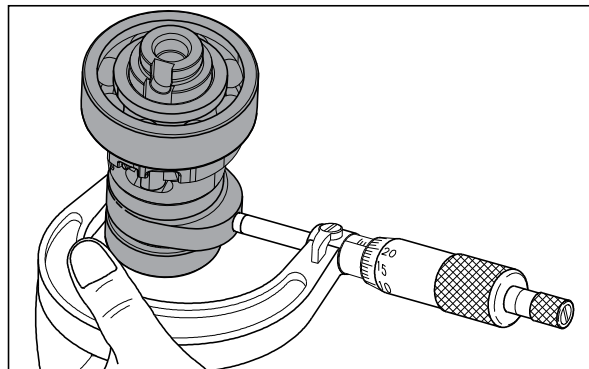

Fig. 3.66
- Measure the cam lobe height. If the lobe height is less than the service limit, replace the camshaft complete with a new one. (Fig. 3.66)